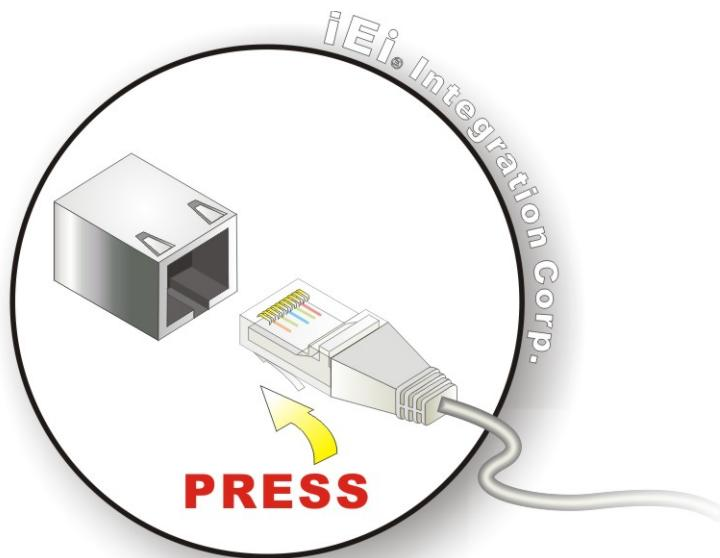

Figure 3-16: LAN Connection
**Step 2: Align the connectors.** Align the RJ-45 connector on the LAN cable with one of the RJ-45 connectors on the TANK-870AI series. See Figure 3-16.